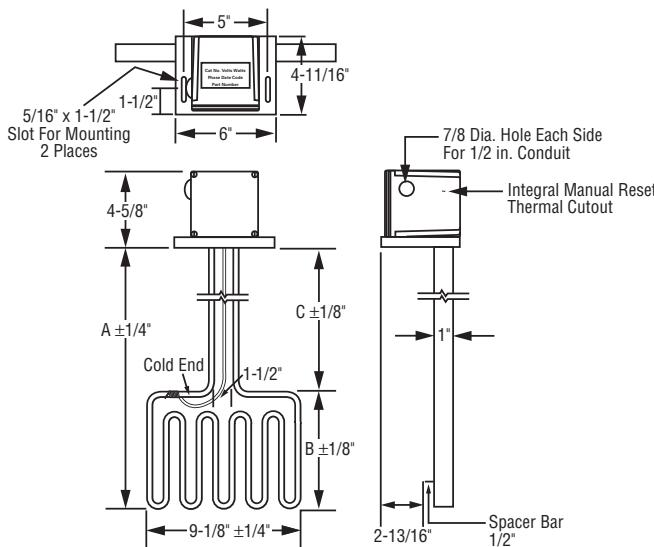

Figure 1
maintain liquid level above heated portion (dimension B of Figure 1) of heater.
2. **Always maintain a minimum of 2"** of solution above the heater portion of the element to prevent exposure of the effective heated length. If the heater is not properly submerged, it may overheat and shorten heater life. *Do not operate heater if dry.* (**Note:** Heated portion of element is Dimension B of Figure 1).